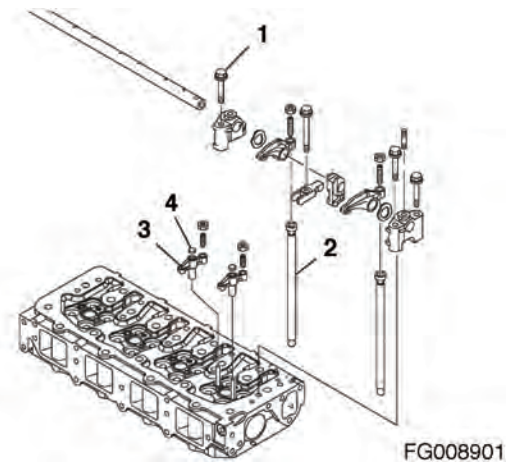

Figure 124
2. Remove the bolts (1, Figure 124) that retain the rocker arm shaft supports to the cylinder head.
4. Remove the push rods (2, Figure 124).
5. Remove the valve bridge assemblies (3, Figure 124). Remove the seat (4, Figure 124) from each valve bridge.